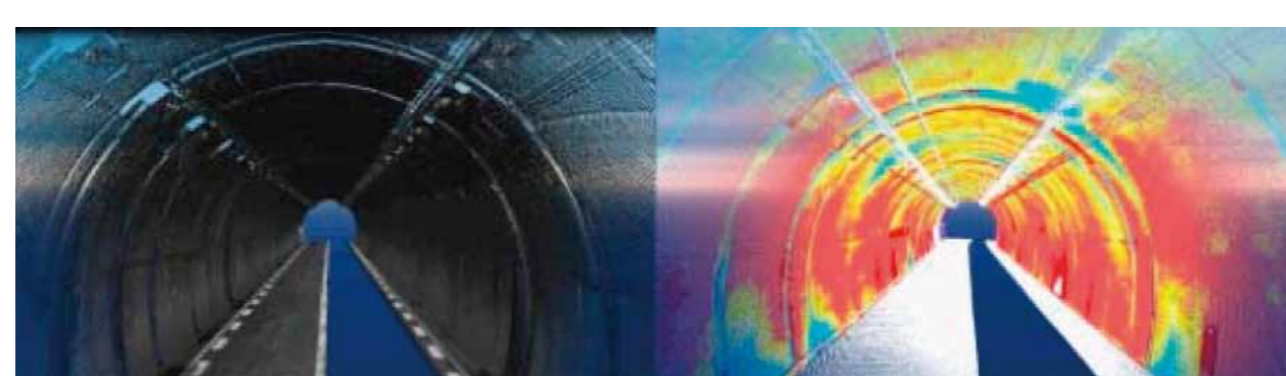

Fig.2 Laser survey plot data
- Laser tunnel surveys and deformation analysis <Fig.2>